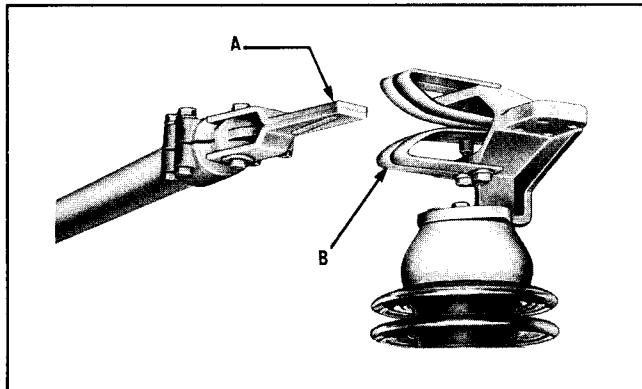

Fig. 4. Blade and jaw contact.
After aligning the INSULATOR STACKS, close the switch by hand and check that the BLADE MOVING CONTACT (A) properly engages the JAW CONTACT (B), Fig. 4. Proper contact means: